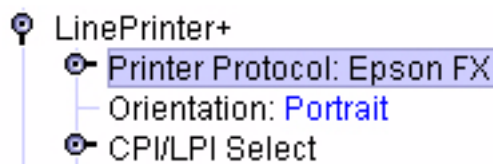

Figure 60. Toggling Through The Available Options
4. Double-click an item to open the Menu Editor (page 72) for that item, or use the < and > keys to toggle through the available options. See Figure 60. (You may change these keys in the printer database window: select **File ▶ Preferences**, then click the **Configuration Editor** tab. See page 20.)